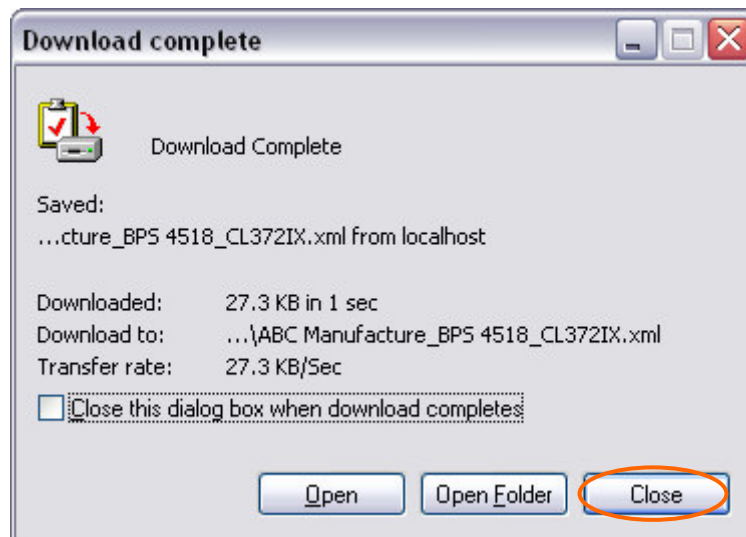

Figure 22 – Download Complete
- After the file has been saved, click on the "Close" button (as shown in figure 22).